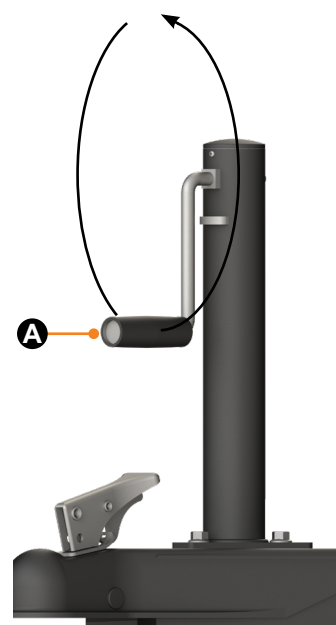

Fig.7
2. Rotate the crank handle (Fig.7A) counterclockwise to retract the jack leg (Fig.7).